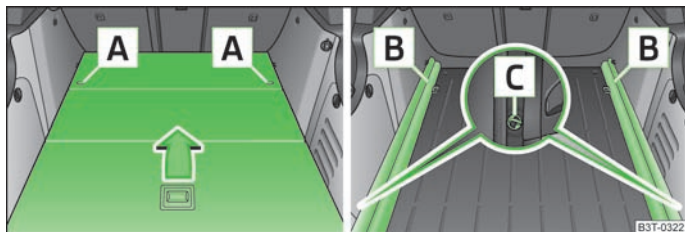

Fig. 72 Luggage compartment: Remove variable loading floor/remove carrier rails
- Unlock the variable loading floor by turning the safety eyes **A** » Fig. 72 to the left by around 90°.